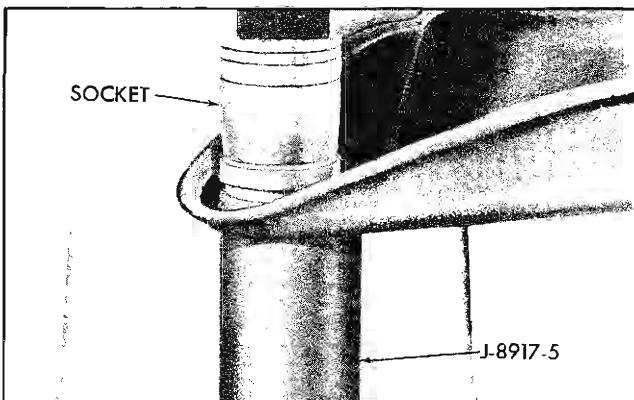

Fig. 3-20 Installing Lower Control Arm Ball Joint
1. With Tool J-8917-5 and suitable socket, press ball joint into place (Fig. 3-20) and lubricate.